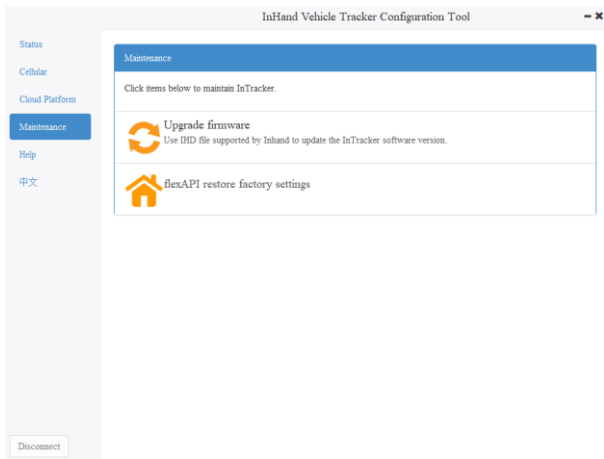

Figure 7-1
(7) Upgrading the Device
Step 1: Click **Maintenance** in the left-side navigation pane to access the configuration page. Click **Upgrade firmware** to access the upgrade page. Figure 7-1 shows the configuration page.